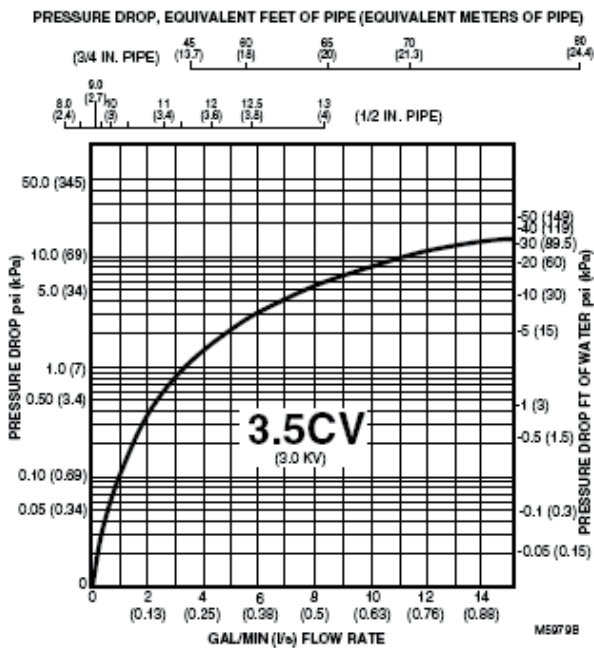

Fig. 3. Flow characteristics of 3.5 Cv (3.0 Kv) valve.
The pressure drop in psi (kPa), equivalent ft (m) of pipe, or feet of water (kPa) can be calculated from Fig. 3 through 8 as follows:
3. Select the graph corresponding to the Cv (Kv) rating (Fig. 3 through 5).